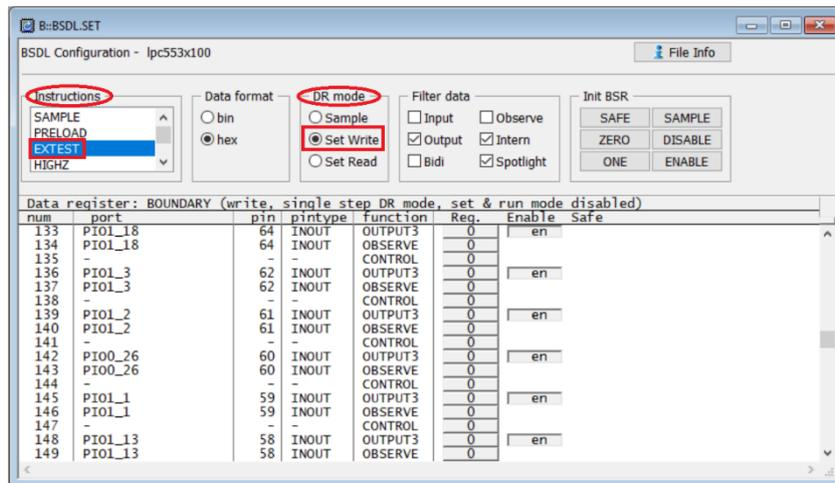

Figure 28. EXTEST settings in the BSDL.SET window
- Enter the BSDL.SET command on the TRACE32 command line, and the BSDL.SET window appears. In the Instructions field, click EXTEST and in the DR mode field, choose Set Write, as shown in Figure 28.